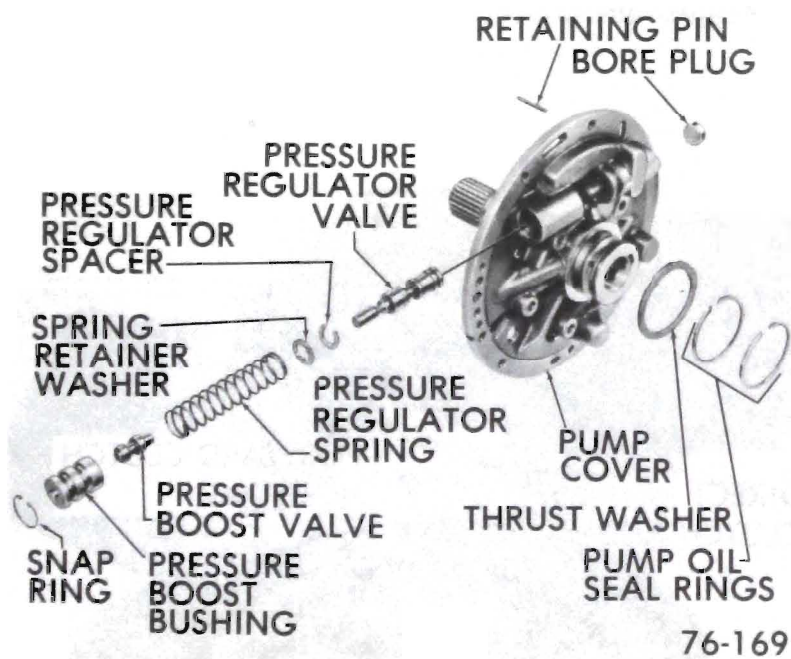

Figure 76-169
2. Install pressure regulator spring retainer, spacer(s) if used, and spring into the pressure regulator bore. See Figure 76-169.